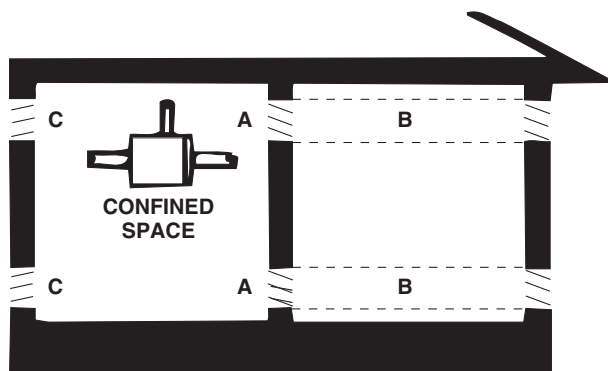

Figure 4. Confined Space Combustion Air Openings (Refer to Table 8)
- For confined space installation of UBX and UDX models (including those with CV option), provide openings (depending on the combustion air source) near the floor and ceiling for ventilation and air for combustion, as shown in Figure 4 and as listed in Table 8.
*See Figure 4.